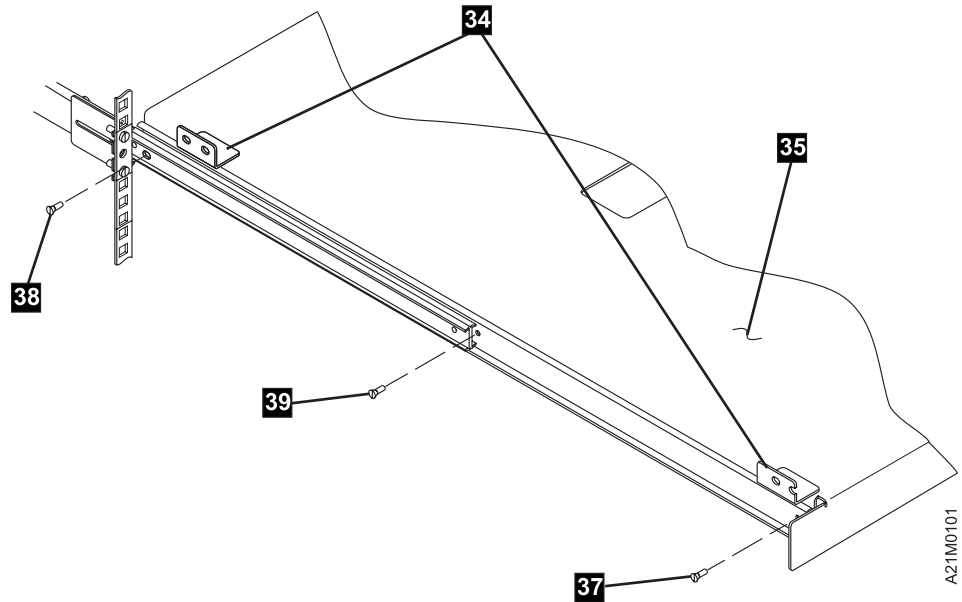

Figure 39. Attaching Tray to Left-Hand Slide
- ___ Step 9. See Figure 39 on page 85 to attach the tray to the left-hand slide.
- ___ Step b. See Figure 39, slide the tray out to its fully extended locking position.